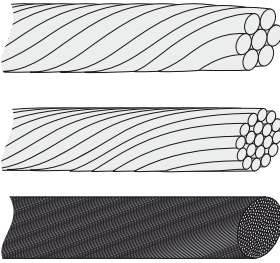

Figure 2.17 Cables with different conductors (from top to bottom): multi-strand, fine-strand and extra fine-strand
5. Connect the three grid wires (L1, L2, L3) and the grounding conductor (PE) to the terminal block with the respective markings. The grounding conductor is marked with the symbol shown in figure 2.17.